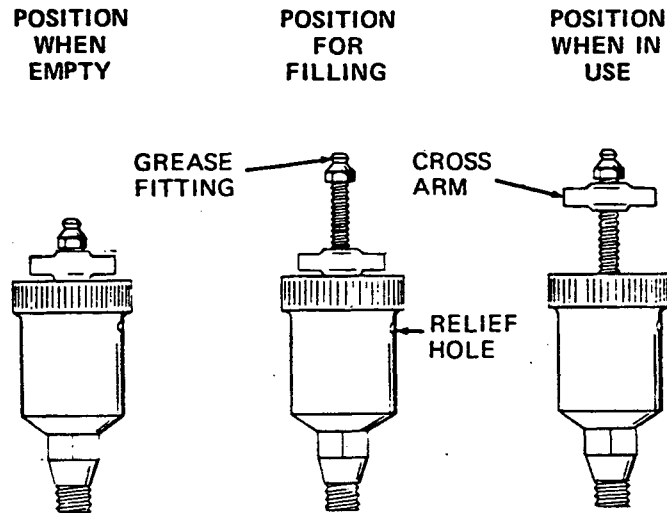

Figure 3. Automatic Lubricating Grease Cup
Before removing the seal assembly, turn the cross arm on the seal grease cup (9) clockwise until it rests against the cover (see figure 3). This will prevent the grease in the cup from escaping after the seal is removed.
Before starting the pump, fill the grease cup through the grease fitting with a good grade of No. 2 pressure gun grease until grease escapes from the relief hole. Turn the grease cup arm counterclockwise until it is at the top of the stem; this will release the spring to apply grease to the seal (see figure 3).